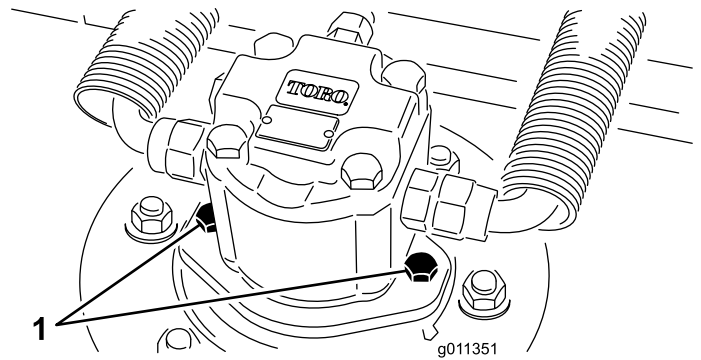

Figure 57
2. Disconnect and remove the hydraulic motor from the deck (Figure 57). Cover the top of the spindle to prevent contamination.
4. Install the hydraulic motor to the deck (Figure 57). Make sure that the O-ring is in position and not damaged.